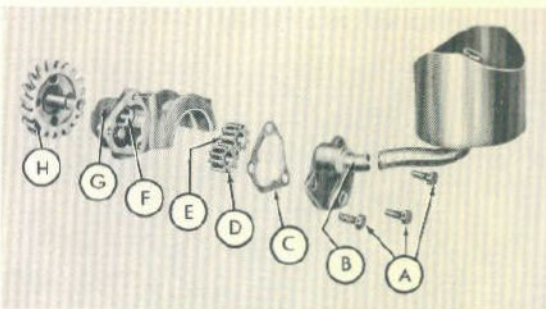

Fig. 6
- Remove the safety wire from the three cap screws (A-Figure 6) and remove the cap screws.
- Remove the cover and tube assembly (B-Figure 6) and the gasket (C-Figure 6).
- Lift the driven gear (D-Figure 6) from the pump.
- Press the drive gear (E-Figure 6) from the driven gear and shaft (H-Figure 6) and inspect the pump body (G-Figure 6) for wear or cracks.
- e. Inspect the oil pump body bushing (F-Figure 6). If the inside diameter exceeds 0.566 inch, or the outside diameter of the drive gear shaft is less than 0.560 inch, replace the bushing or shaft.
NOTE: If the bushing is replaced it must be reamed to .001 inch of the shaft diameter. Replace the drive gear (E-Figure 6) if it is less than 0.560 inch long or if the teeth are worn, chipped, or broken.